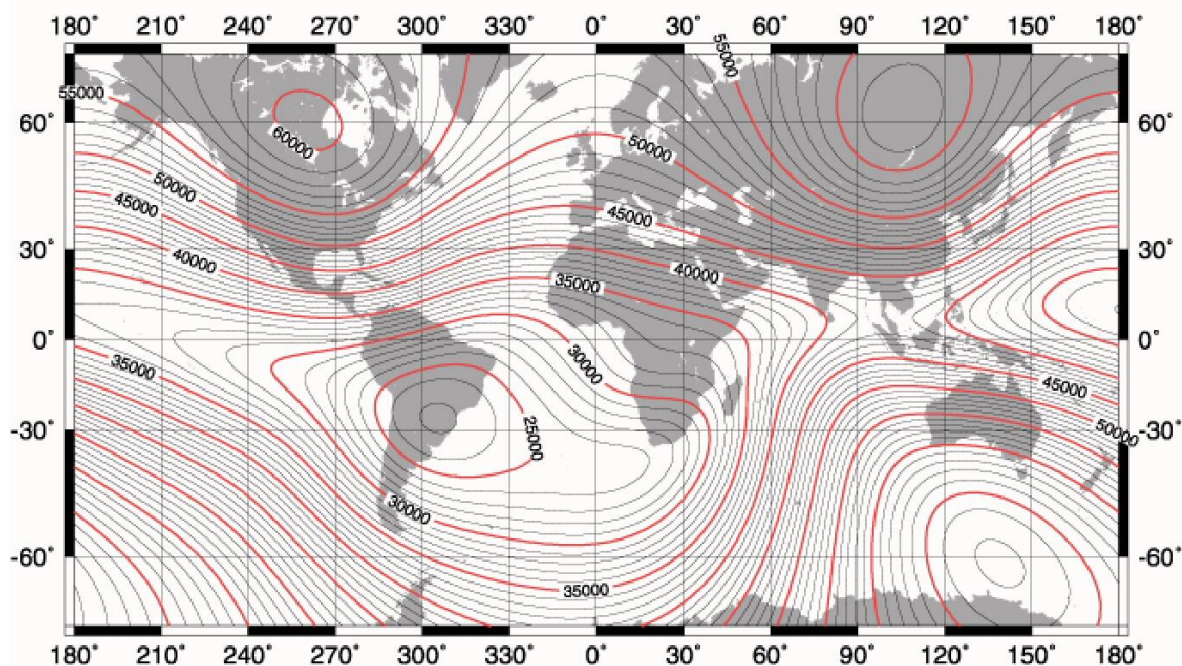

Figure 21. Magnetic Field Intensity Variation, (nT)
Usually, fairly accurate readings can be obtained if the magnetometer is tuned to be within 3,000 nT of the local magnetic field strength. The approximate magnetic field in your survey area can be obtained by examining the world magnetic map provided in Figure 21 of this document. This world map is overlaid with contour lines showing the regional variation of magnetic field strength with position. Simply find your position on the map and read the field strength on the nearest contour line.
- 1 Use the world magnetic map (Figure 21) to determine the approximate field strength for your location.